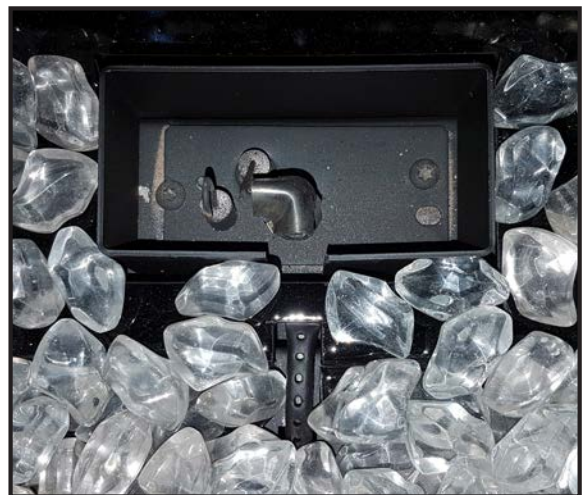

Figure 23. Correct Pilot
8. Reinstall the burner, tray, glass media, and glass door. Also refer to SECONDARY INSTALLATION - FIREBOX LINER AND BURNER TRAY REMOVAL section. When re-installing the burner, ensure that the burner to pilot hood and shield relationship is similar to what is shown in Figure 23.